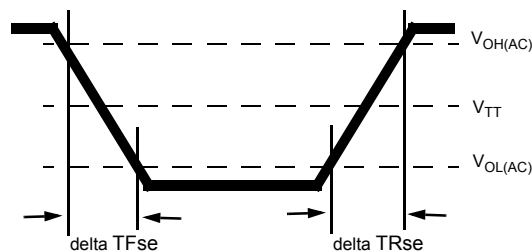

Figure 6. Single-ended Output Slew Rate Definition
With the reference load for timing measurements, output slew rate for falling and rising edges is defined and measured between V_{OL}(AC) and V_{OH}(AC) for single ended signals as shown in Table 16 and figure 6.